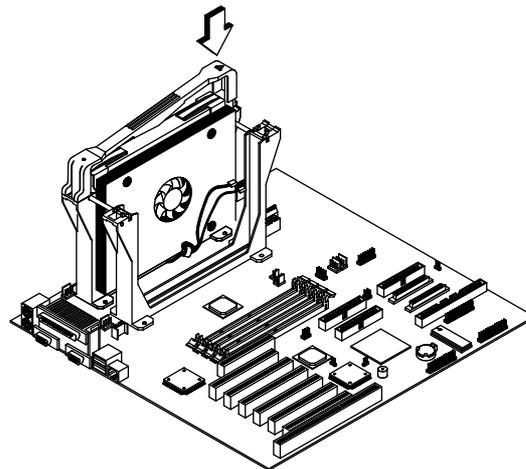

Figure 1-7 Installing a Retention Mechanism Cover
3. Use the retention mechanism cover to secure the terminator board by pressing it down until it locks onto the retention mechanism. See figure 1-7 for an illustration of this step.